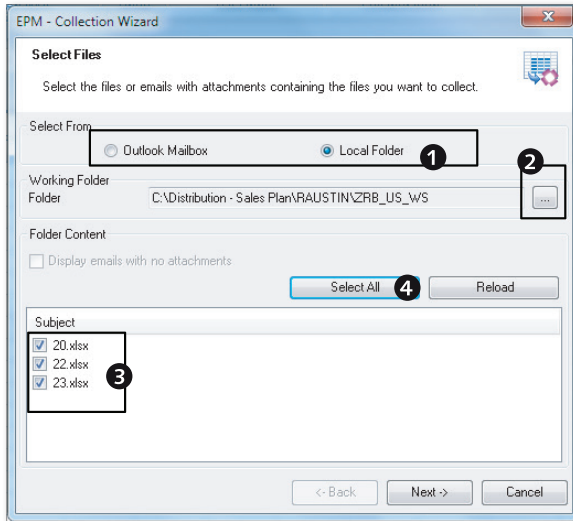

Figure 7.28 Collecting Data
2. The next dialog box displays two options for collecting data (Figure 7.28, ❶):
When this option is selected, data is collected from a file located on your local computer. When you select the folder option, you can specify the folder from which you want to collect the data (Figure 7.28, ❷). Click on the NEXT button.
3. Select the files to collect, and click on the NEXT button. You can select more than one file in this step (Figure 7.28, ❸ and ❹). Click on the NEXT button.